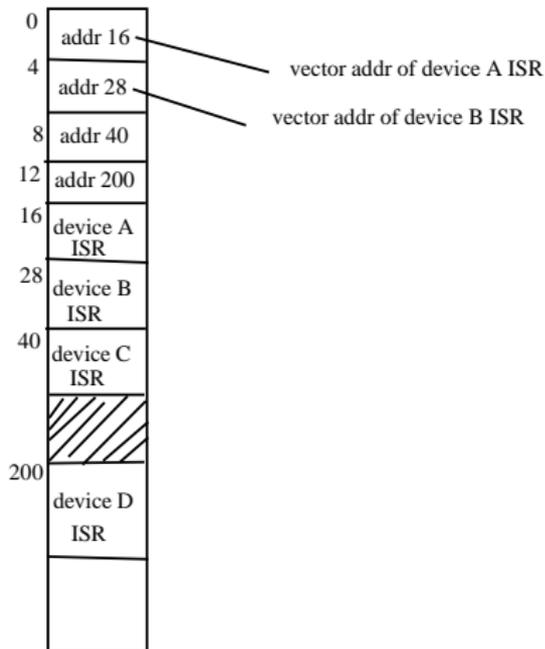

Figure 19: Interrupt vectors are stored in memory
- ▶ Fig. 19 shows that first four locations (words, each 32 bits) are assigned to interrupt vectors.